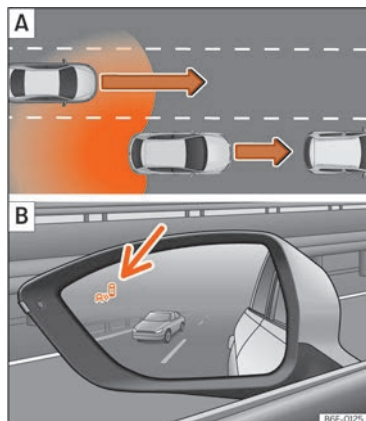
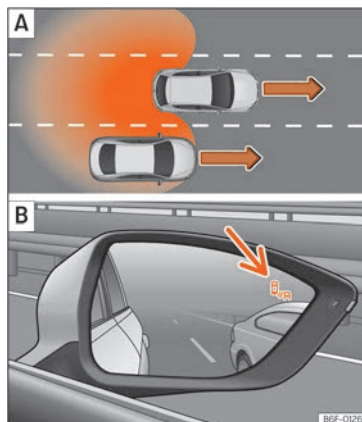

Fig. 117 Schematic diagram: **A**) Overtaking with traffic behind the vehicle. **B**) Side Assist indication on the left hand side.
Fig. 118 Schematic diagram: **A**) Overtaking in the central lane and then joining the right lane. **B**) Side Assist indication on the right hand side.
In the following situations, an indication will be displayed in the control lamp >>> Fig. 117 **B**) (arrow) or >>> Fig. 118 **B**) (arrow):
- When being overtaken by another vehicle >>> Fig. 117 **A**).
- When passing another vehicle >>> Fig. 118 **A**) with a speed differential of approx. 10 km/h (6 mph). If the vehicle is passing at a considerably higher speed, no indication will be displayed.